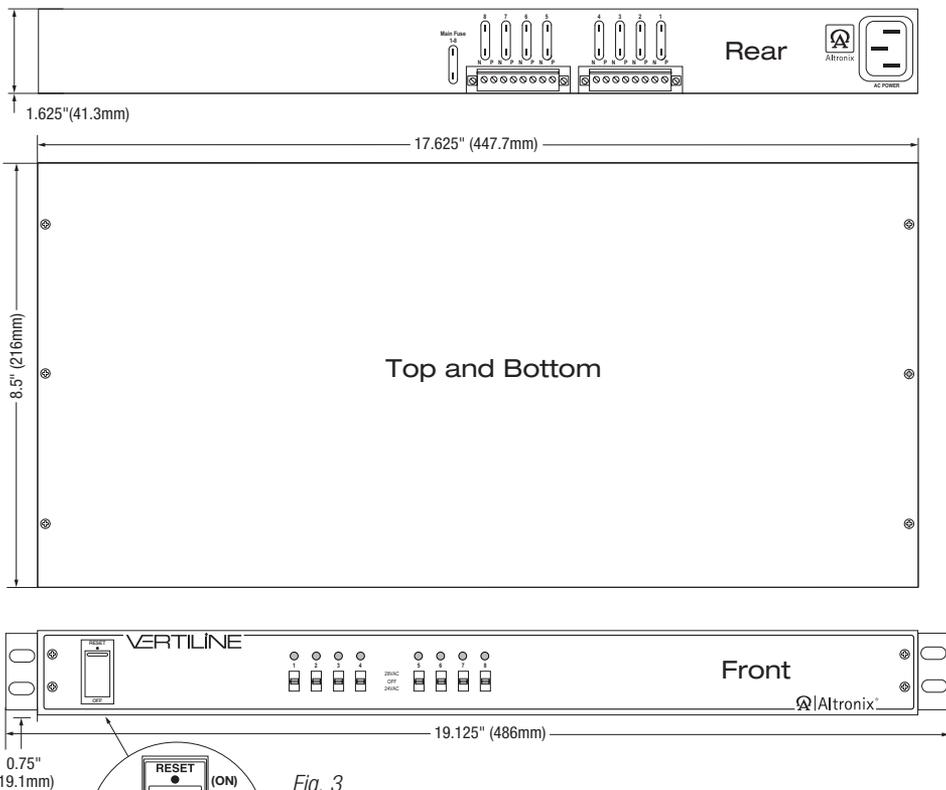

Fig. 3
5. Set illuminated master power disconnect circuit breaker to the (ON) position (*Fig. 3, pg. 6*).
7. Measure output voltage before connecting cameras. This helps avoiding potential damage. All terminals with common suffix (P) "1P, 2P ..." are the same polarity.
8. Set illuminated master power disconnect circuit breaker to the (OFF) position (*Fig. 3, pg. 6*).
10. Upon completion of wiring, set illuminated master power disconnect circuit breaker to the ON (RESET) position (*Fig. 3, pg. 6*).
To reset circuit breaker set power switch to the ON (RESET) position (Fig. 3, pg. 6).